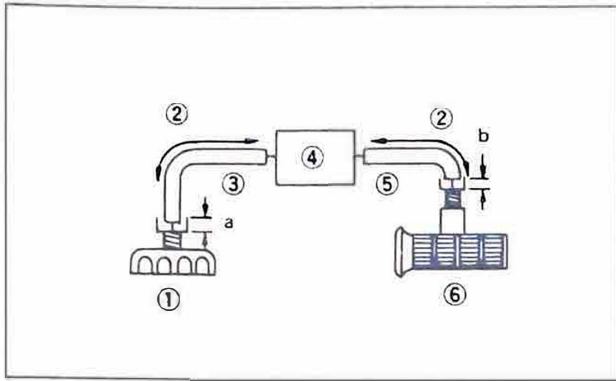

Fig. 51
3. THROTTLE WIRE ADJUSTMENT (Fig. 51)